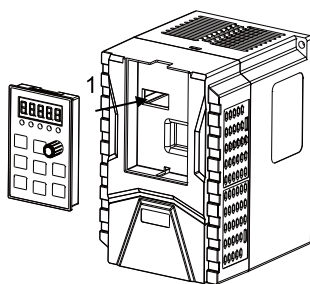

Fig 3-5 Keypad installation
B. Method of keypad installation is shown as fig 3-5: Flat the keypad into the keypad slot and press the keypad in direction 1 until you hear the ‘clicking’ sound, namely the keypad is flush with the front of machine surface.